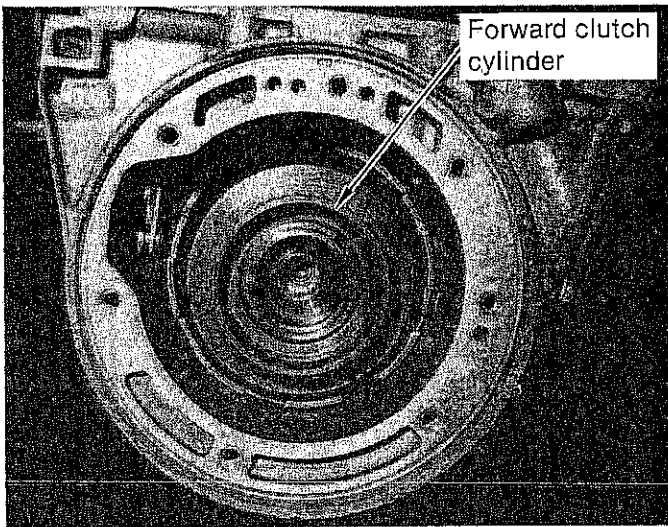
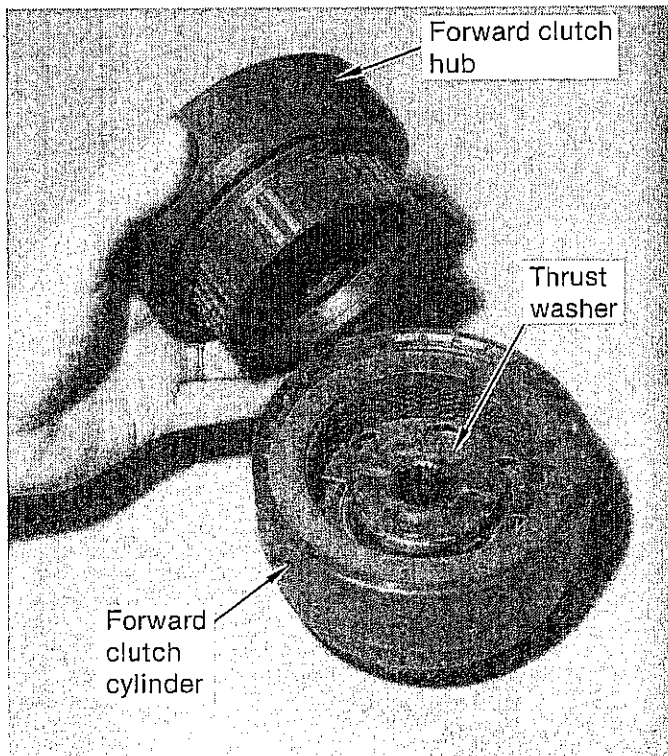

FIGURE 10
FIGURE 11
STEP 7. Remove the forward clutch cylinder assembly. (See Fig. 10) The forward clutch hub and ring gear will probably come out with the cylinder. There is a washer between the cylinder and the forward clutch hub. (See Fig. 11) Check for the small two-tab thrust washer inside the front of the cylinder if the washer did not come out with the pump. Set the clutch cylinder aside.